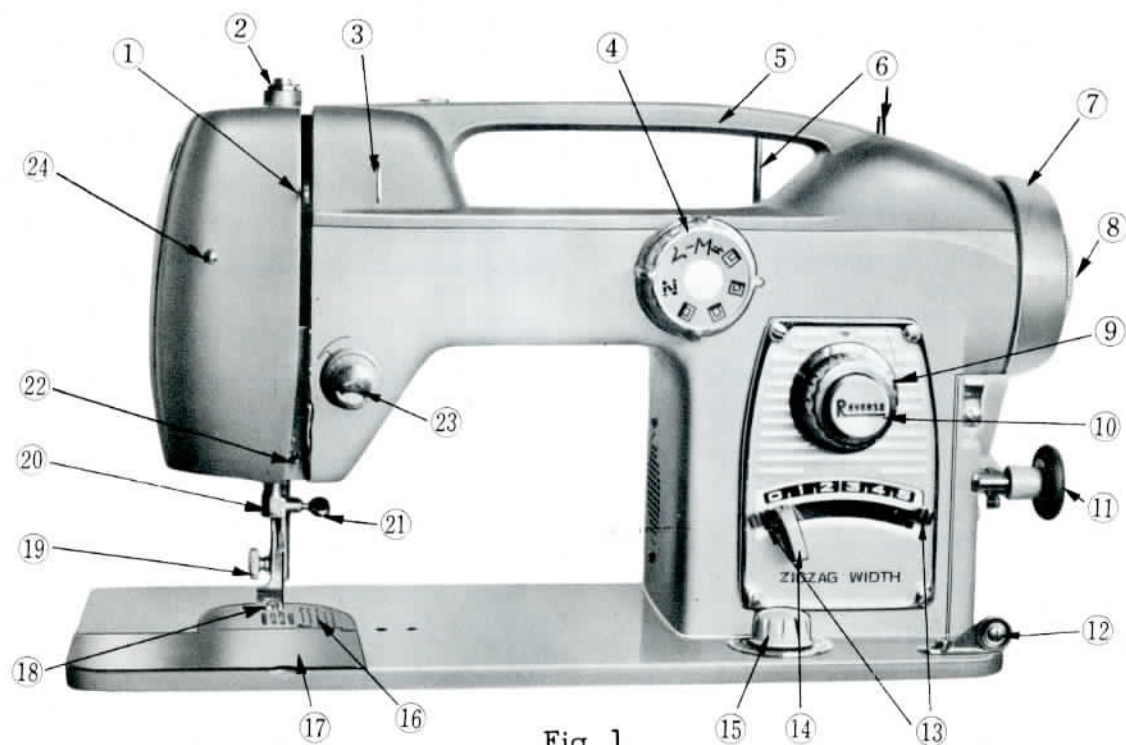
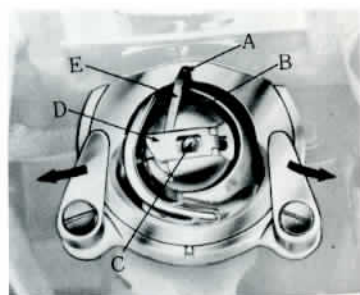
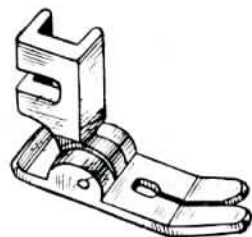
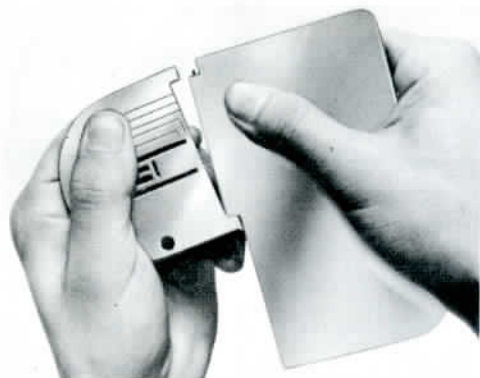

Fig. 1
Fig. 10
Fig. 14
Fig. 13
Open hinged cover plate in front of the needle. (See 17 Fig. 1). Hold the bobbin case latch, (D), Fig. 10, between the thumb and forefinger of the left hand, with at least three inches of thread running from the top of the bobbin case to the right. Insert and center the bobbin case on the stud of the shuttle body, (C). Be sure the bobbin case finger, (E), is opposite shuttle race notch, (A). Press the bobbin case into the shuttle as far as possible until latch catches on the center post of shuttle. THEN release the bobbin case latch, (D). Press bobbin case again after latch has been released to make sure the bobbin case is locked securely in place. Close the cover plate.
Changing the Foot and Plate. To change presser foot (19, Fig. 1) loosen thumb screw and remove zigzag foot. Replace with hinged straight foot and tighten screw securely. Fig. 14
To change needle plate (16, Fig. 1) remove screw and lift off with cover plate attached. Hold needle plate with left hand and cover plate with the right. (Fig. 13)